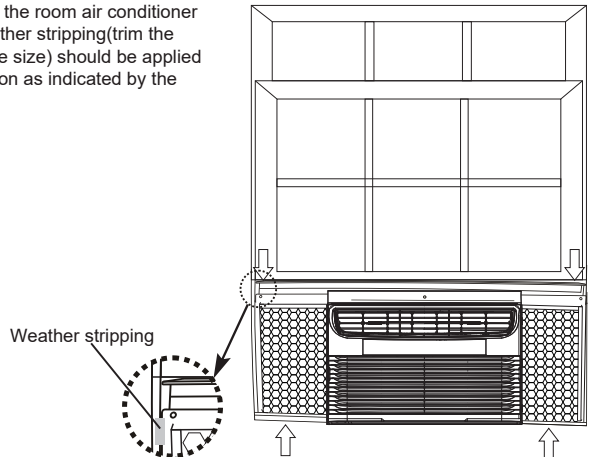

FIG. 25
- In order to minimize air leaks between the room air conditioner and the window opening, suitable weather stripping(trim the provided weather stripping into suitable size) should be applied in case of any gaps found at the location as indicated by the arrows in Fig. 25.